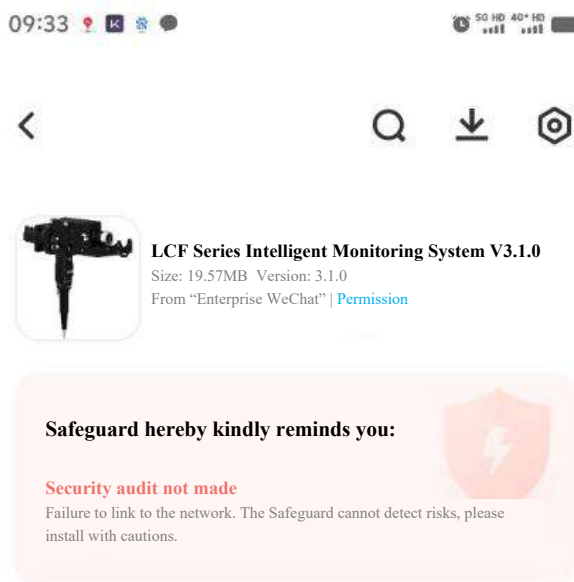
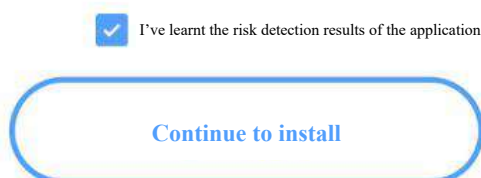

Figure 2.4
Figure 2.3
- ① After installation, the icon shown in Figure 2.3 will appear; continue by clicking "Install"; the icon shown in Figure 2.4 will appear after installation. This APP currently only supports installation on Android devices.